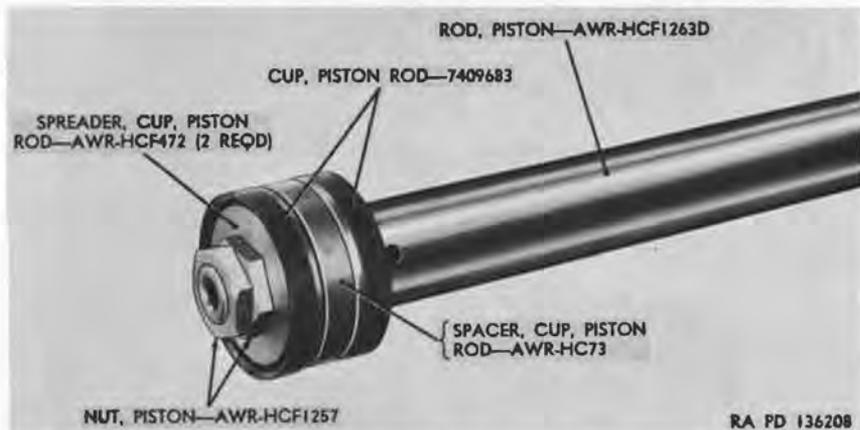

Figure 56. Piston assembly.
- (2) Remove two piston nuts, piston rod cup spreaders, piston rod cups, and one piston rod cup spacer (fig. 56) from piston rod.
- (3) Slide cylinder head to piston end of piston rod and remove cylinder head snap ring, washer, piston rod leather wiper,